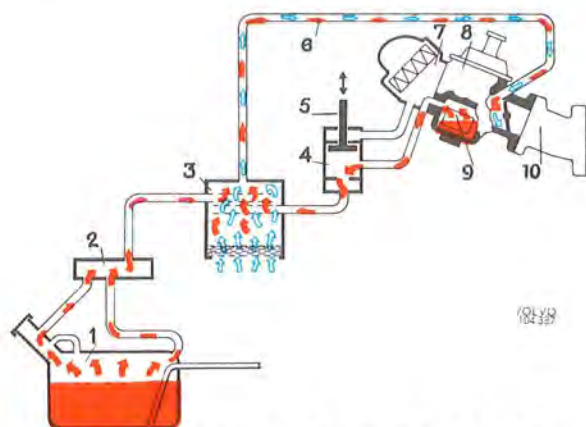

Fig. 2-60. Gas evaporite unit with control rod (5) at idle
Vehicles for the USA market are fitted with a gas evaporite control system which prevents fuel fumes from being released out into the atmosphere. Its function is outlined in Fig. 2-60.
Fuel fumes from the floatchamber (9, Fig. 2-60) is led via the valve (4) to the venting filter when the engine has been switched on or during idling. Throttling shuts off the connection between the venting filter and the valve (4) so that the fumes travel via the valve to the air cleaner.